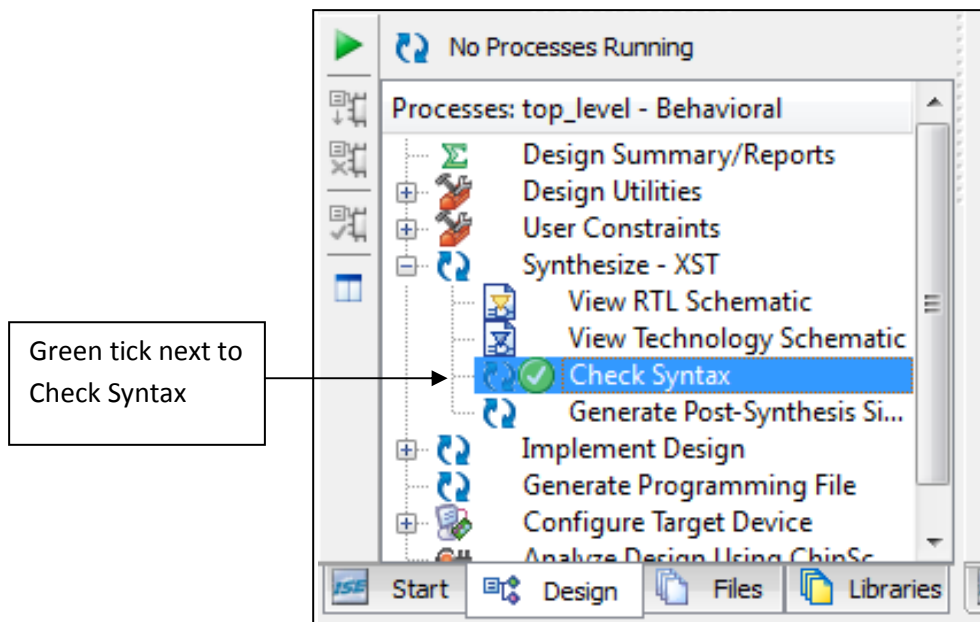

Figure 6.38: A green tick next to Check Syntax shows that no errors were found.
4. Double-click on **Check Syntax**. After some time, a green tick should appear beside **Check Syntax**, as shown in Figure 6.38. If instead, a red cross appears, this means a syntax error has been found. Any errors should be fixed before proceeding.